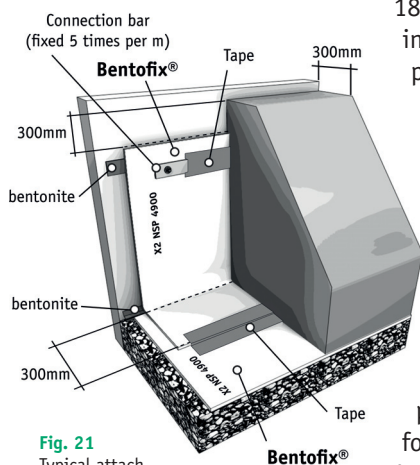

Fig. 21
18.2 Bentofix® may be secured to the structures by use of a stainless steel batten or clamp, mechanical fasteners, or other appropriate device if necessary for minimizing movement. A typical Bentofix® attachment to a concrete structure is shown in the figure 21.